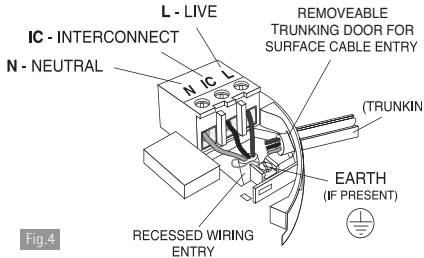

Fig.4
3. Lift off the wiring cover as shown in Figure 4.
4. If the mains wires are recessed, bring the wires through the rear hole in the mounting plate as shown in Figure 4.
- (a) position the mounting plate so the cable trunking is as shown in Figure 4.